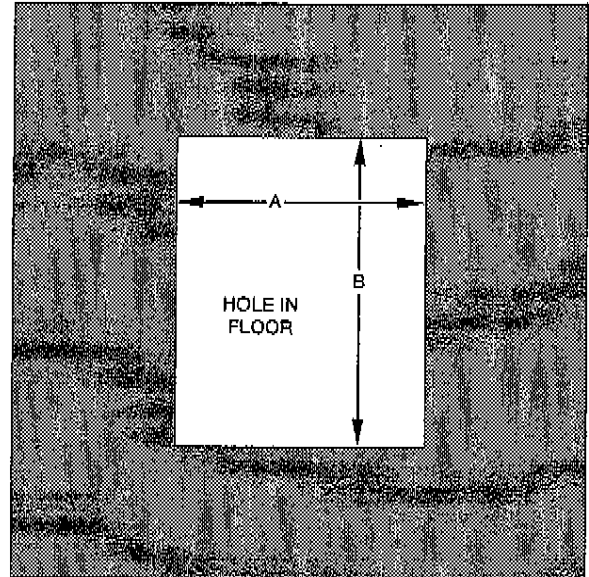

Fig. 13—Floor Opening in Concrete Slab
1. Construct hole in floor per dimensions in Fig. 13 and Table 2.